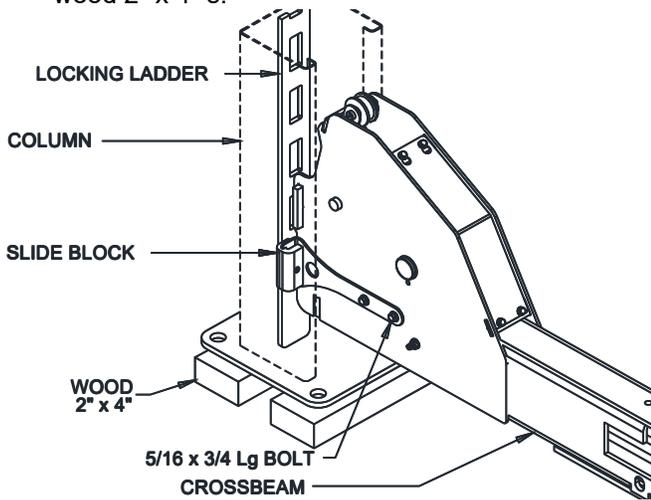

Fig 15 – Slide Block Installation
- 20) Slide power side column onto crossbeam until the end of the crossbeam is approximately one inch from the back of the column. Position slide blocks as shown in **Fig 15** and attach with 5/16-18 x 3/4" bolts. Lift the column and place on wood 2" x 4" s.